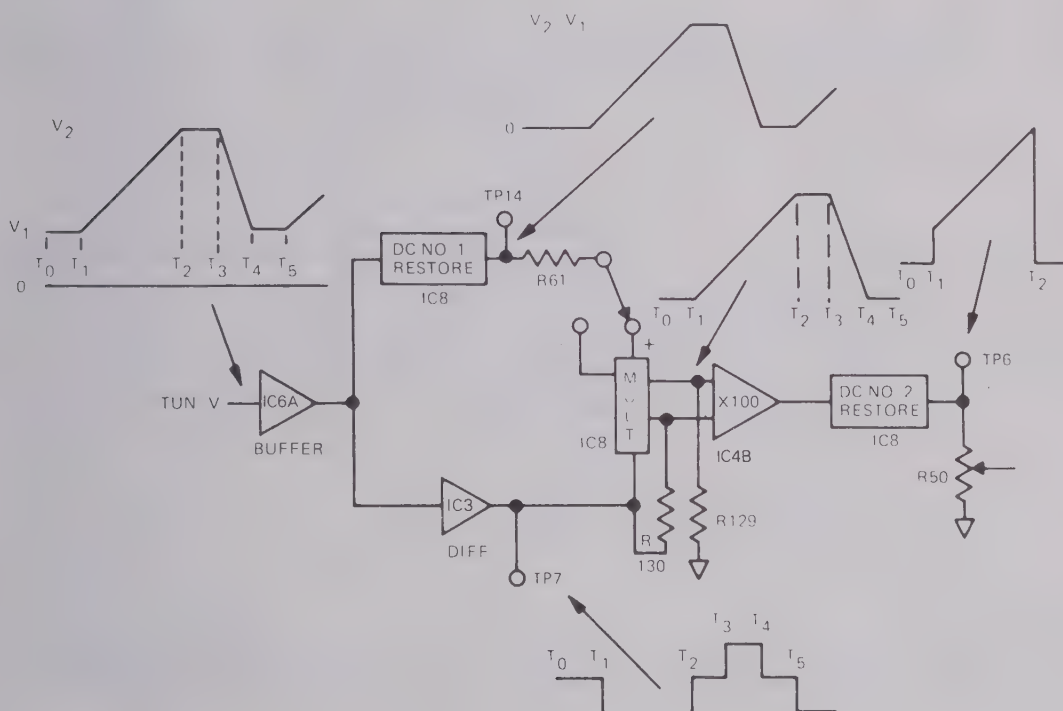

Fig. 4 Simplified circuit diagram of sweep delay compensation
18. The circuit used to provide the compensation signal is shown schematically in Fig. 4. The essential characteristic of the compensation signal can be seen in the waveform at TP6, there being a step component summed with a ramp component. The step is formed by differentiation of the input sawtooth and feeding the resulting step to TP6 via IC4B. The ramp component is generated by multiplying the d.c. restored tuning voltage sawtooth with the output of the differentiator. This signal is combined with the step in IC4B and the combined signal appears at TP6. As the sweep rate is varied, the value of the derivative changes. This results in an increase in step height and an increase in ramp slope with increase in sweep speed.